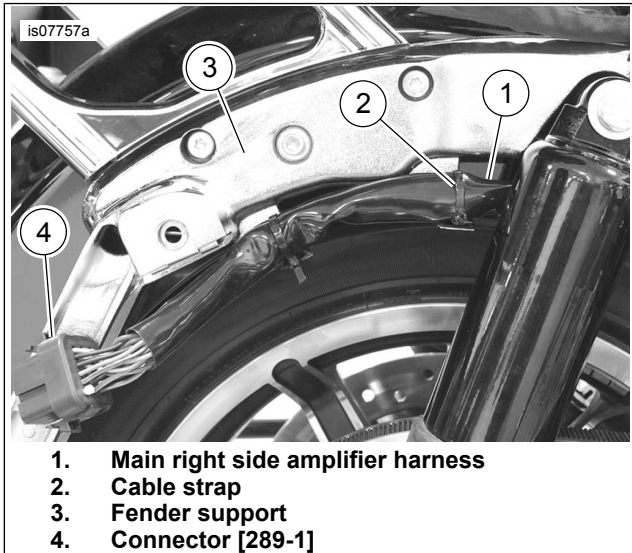

Figure 7. Main Amplifier Harness Routing
1. See Figure 7. Route the vehicle-side amplifier harness (1) in the saddlebag mounting area, beginning with the large 18-way amplifier socket connector [289-1A], moving forward on the vehicle. Route the harness following the saddlebag support (3).